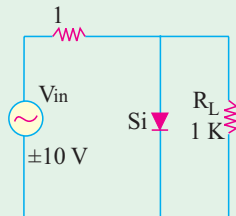

Fig. 52.52
4. Sketch the voltage across R_L in the clipper circuit of Fig. 52.52.